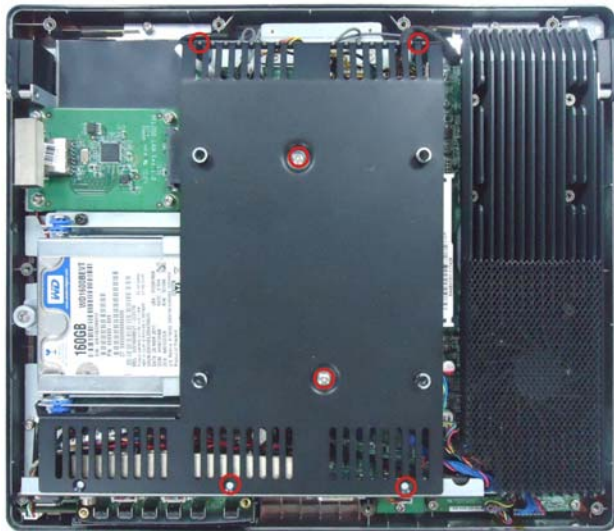

Figure 5-2: Internal Cover Retention Screws
Step 1: Remove the six (6) retention screws securing the internal aluminum cover to the chassis (**Figure 5-2**).